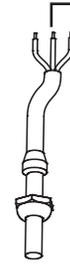

fig. 4
4. Prepare the cable in accordance with statutory regulations. Push the cable through the cable gland and seal it by tightening the union nut. Connect the wires according to the marks (fig. 4). Remove the cover and tighten the 4 screws (fig. 5). Tighten the union nut of the cable gland. Make sure you have a proper seal to ensure jet water protection (IP65).